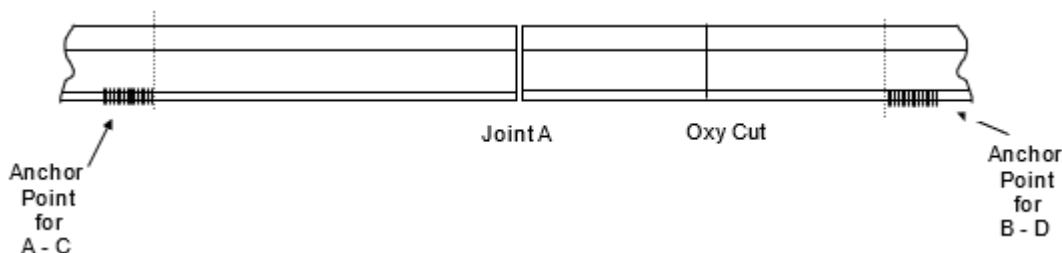

Figure 9 - Oxy cut adjustment joint
- Oxy cut the rail a minimum of 2.2m from the joint (See Figure 9).